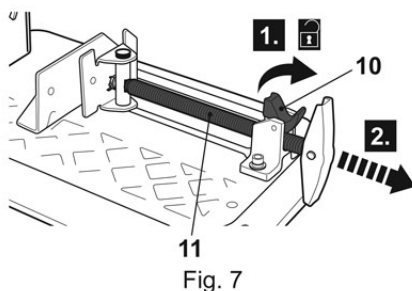

Fig. 7
- > Disengage the unlocking lever (10) and pull the vice (11) outwards (Fig. 7).